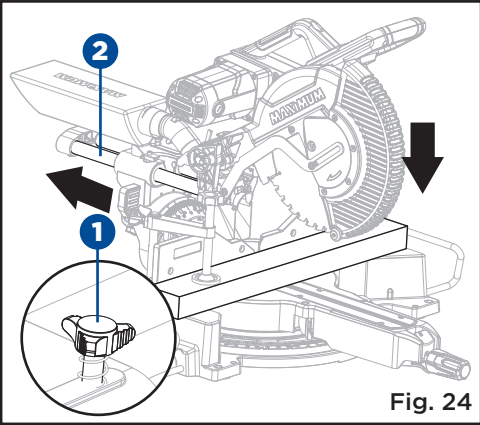

Fig. 24
**COUPE EFFECTUÉE PAR DÉPLACEMENT DE LA TÊTE DE SCIE DE HAUT EN BAS (FIG. 24)**